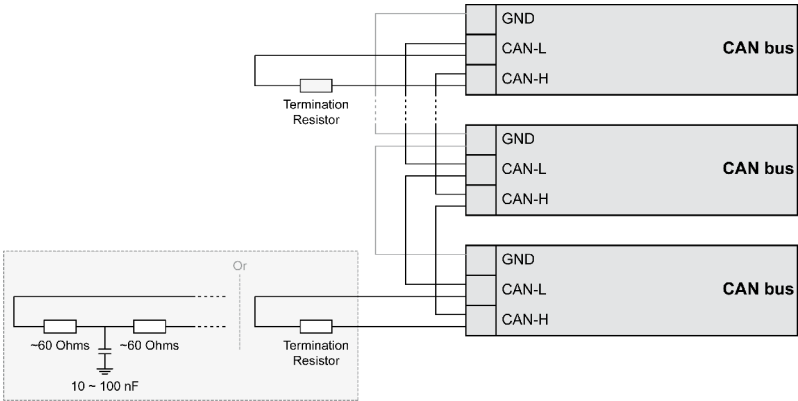

Fig. 25: CAN bus - termination
The termination resistor is connected between CAN-H and CAN-L (Fig. 25).
- Divide the termination resistance into 2x60 Ohms with a center tap connected to ground via a capacitor of 10 to 100 nF (Fig. 25).